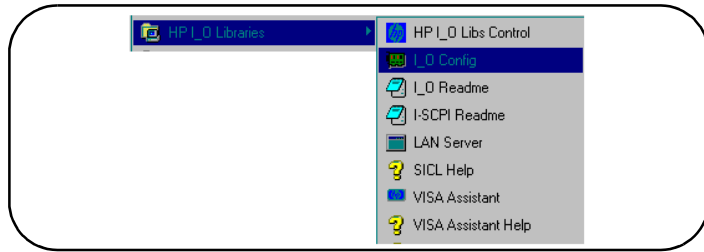
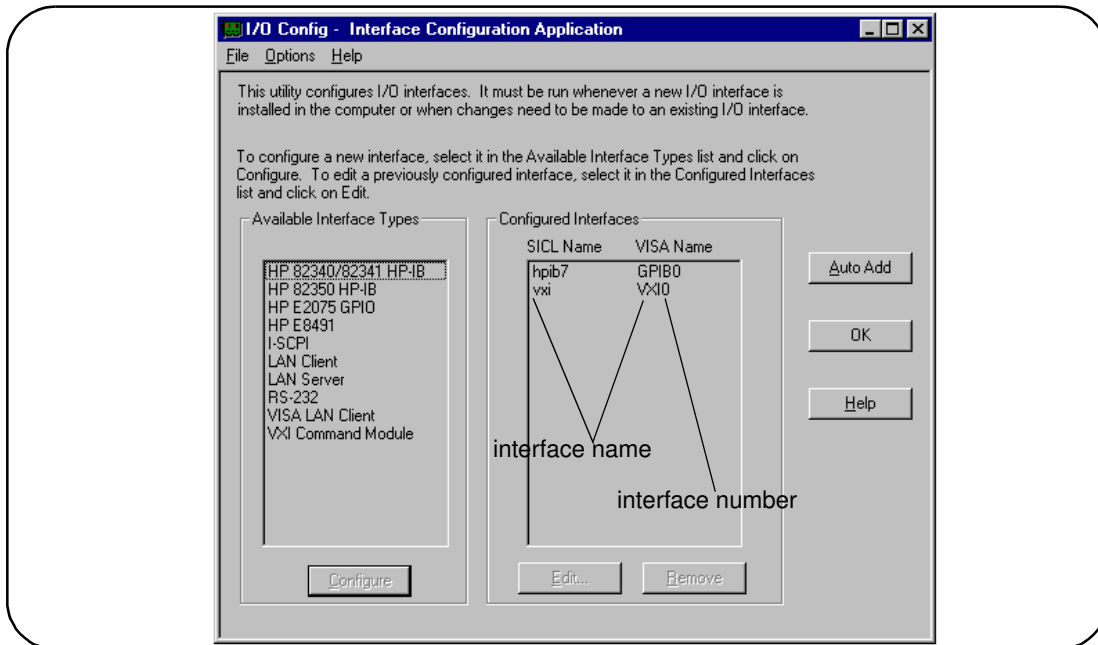
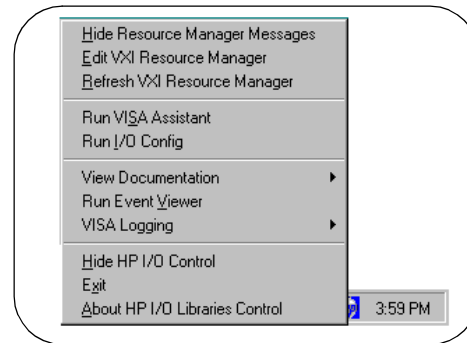

Figure 2-10. The HP I/O Libraries Program Group.
Figure 2-11. The HP I/O Libraries I/O Config Utility.
Figure 2-13. Editing Your Configuration on Windows 95 Platforms.
1. Connect the IEEE 1394 interface cable between the host adapter (PC) and one of the IEEE 1394 ports on the E8491B front panel.
3. From the HP I/O Libraries program group created when the libraries were installed (Start >> Programs >> HP I_O Libraries), click on ‘I_O Config’ (Figure 2-10).
An alternative is to click on the HP icon in the lower right-hand corner of your monitor which is placed there following the installation of the I/O Libraries and configuring the HP E8491B. Clicking on the HP icon brings up a pop-up menu like that shown in Figure 2-13. Click on “Run I/O Config”. Either method described in this step brings up a configuration window similar to Figure 2-11.
5. Figure 2-11 returns with the SICL Name and VISA Name inserted. Click OK to close the utility and complete the configuration.
When it is necessary to edit your configuration, click ‘I_O Config’ in the HP I/O Libraries program group (Figure 2-10). To edit the HP E8491B, click (highlight) the configured interface (“vxi VXI0”) in the utility (Figure 2-11). This activates the ‘Edit’ and ‘Remove’ buttons at the bottom of the window.
After installing the HP I/O Libraries and configuring the HP E8491B on the Windows 95 platform, an **hp** icon is placed in the bottom right corner of your PC monitor (Figure 2-13).
Runs the I/O Config utility and brings up the “I/O Config - Interface Configuration Application” window shown in figure 2-11.
2. Click on Start >> Programs >> I_O Config to bring up the I/O Config window (Figure 2-11).
- activated from the 'I/O Control' icon (see Figure 2-13)